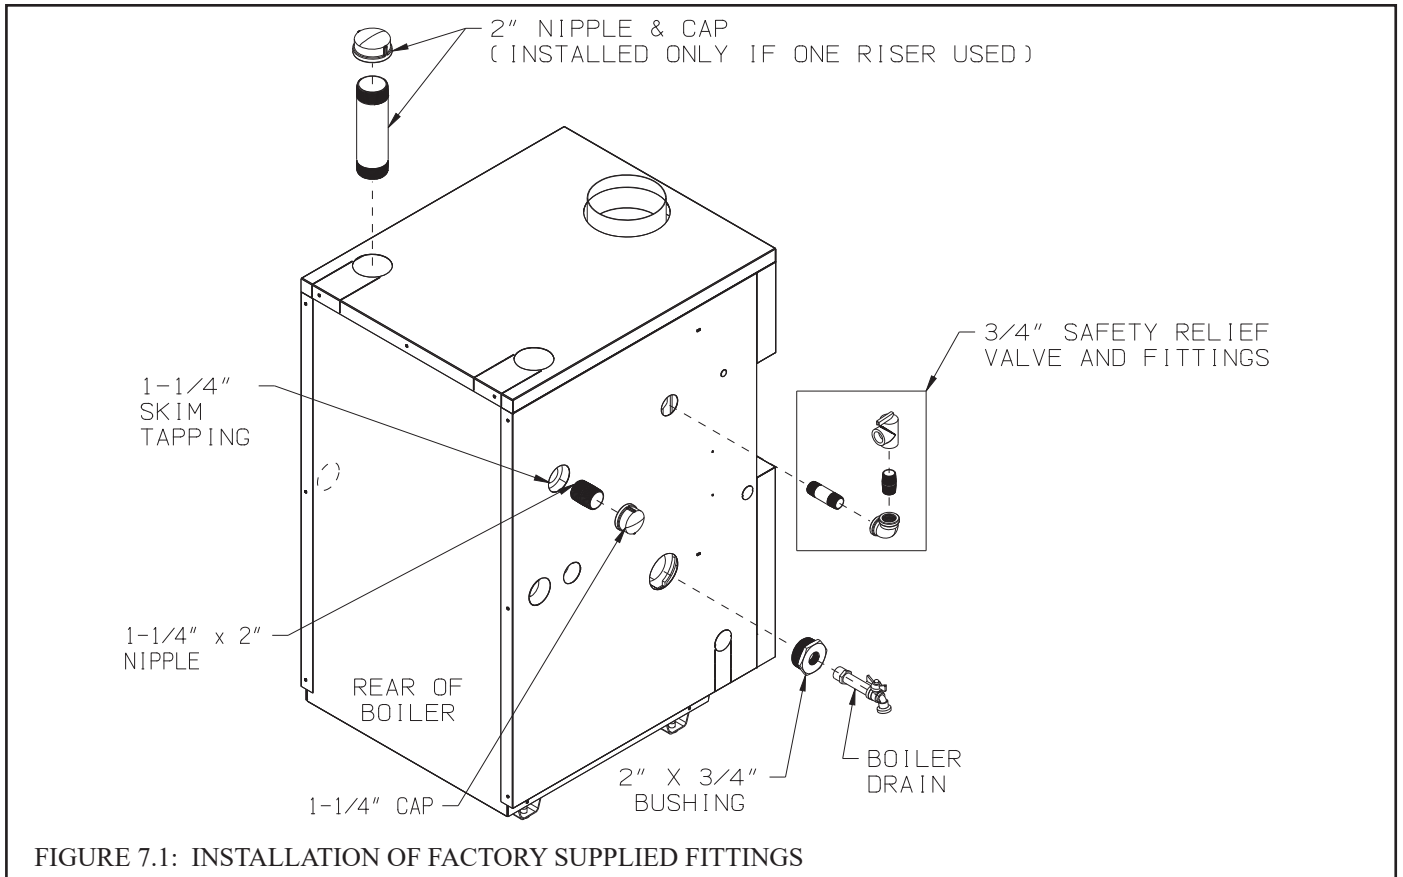

FIGURE 7.1: INSTALLATION OF FACTORY SUPPLIED FITTINGS
- 1) Install safety valve (spindle must be in vertical position) into tapping on boiler left side using the 3/4" NPT nipples and elbow supplied (Figure 7.1).
- 3) Install drain valve into tapping on boiler left side using the 2 x 3/4 bushing provided (see Figure 7.1).
- 4) Install the nipple and cap provided in the 1-1/4 skimmer tapping as shown in Figure 7.1.
- 5) The CGSA-57-S2 - CGSA-142-S2 may be piped with either one or two Supply risers as shown in Figures 7.2 and 7.3 respectively. If only one supply riser is used, use the 2" nipple and cap provided to plug the unused supply tapping (Figure 7.1).